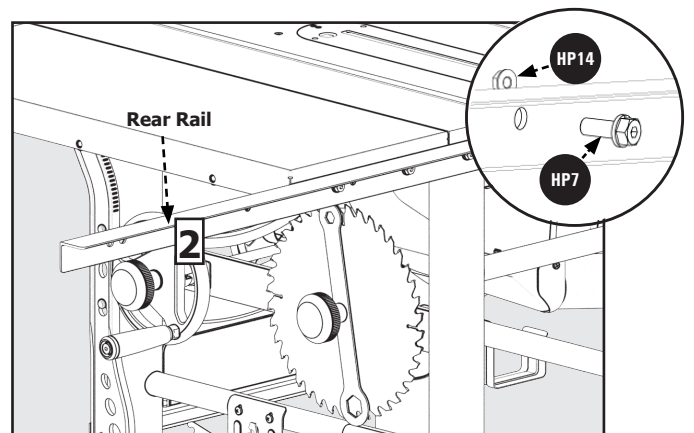

Figure 7
2. Using the supplied 3/16 inch T-Handle Allen Wrench, attach the Rear Rail **PC17** [2] to the table back using two 5/16-18 x 7/8 inch Hex Screw with Split Lock Washer **HP7**. See Figure 7.